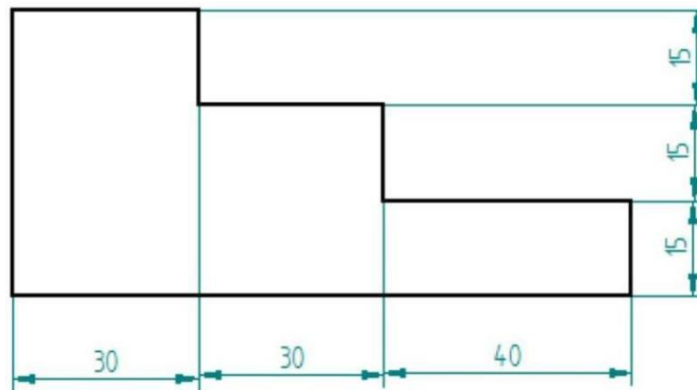

Fig.3
Draw Fig.3 to 1:1 scale, 1:2 scale & 2:1 scale.
- Copy Fig. 3 to 1:1 scale and dimension it using both Aligned system & Uni-directional system.